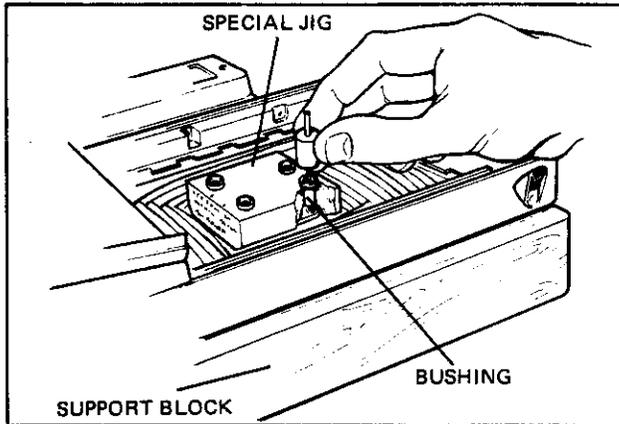

FIG. 5.11 DRILLING OUT THE POST
- c. Place the camera on support block #CR-1000A and position the jig over the bellows plate as shown in Figure 5-11. Locate the drill in the bushing and drill the housing by rotating the collar back and forth in your fingers.